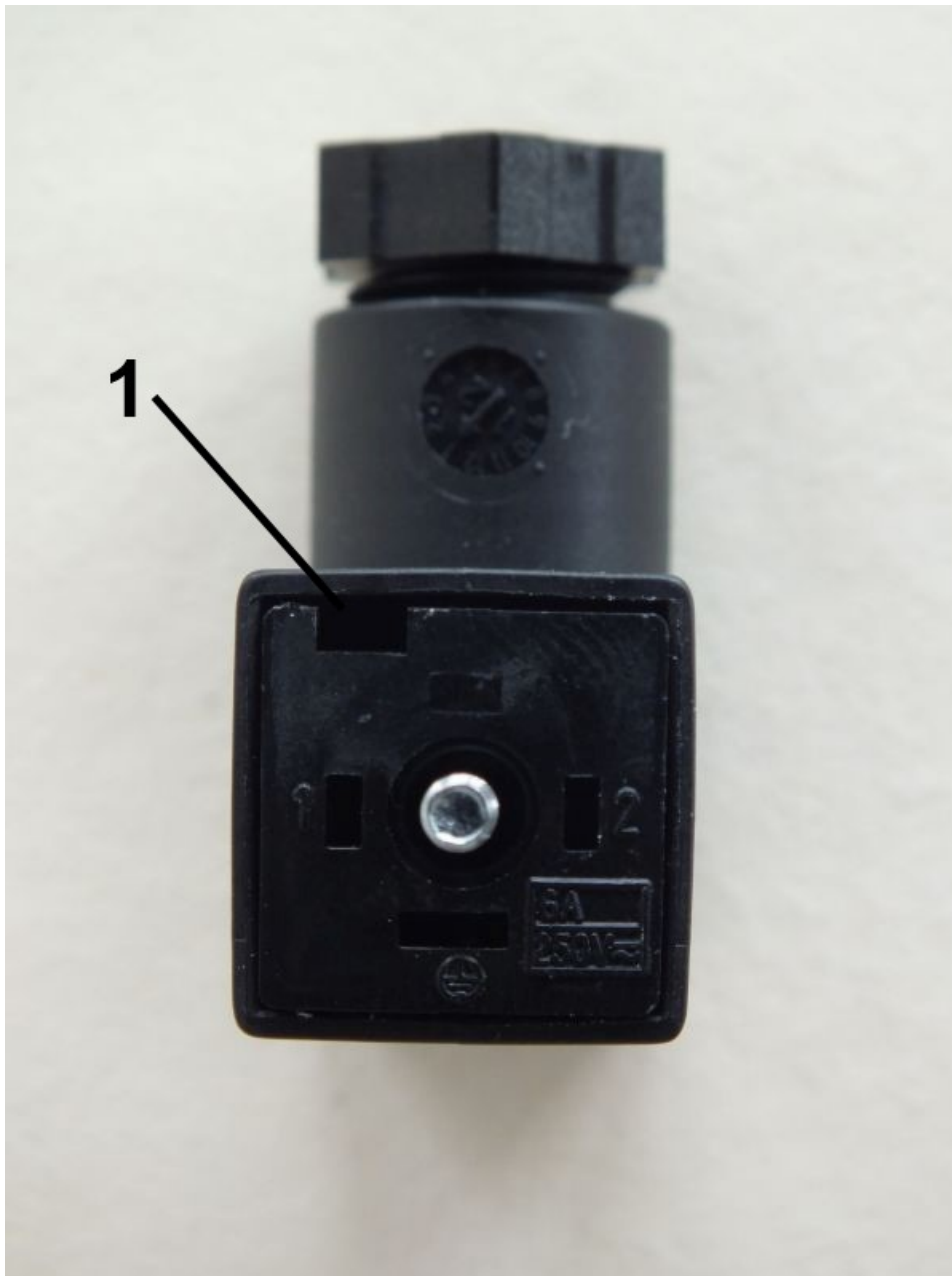

Fig. 22: Loosen inner section
- 3.** ➤ Remove the inner section from the socket by inserting a flat-bladed screwdriver into the slot (*Fig. 22/1*) and carefully pry out the inner section.
- 7.** ➤ Place the inner section (*Fig. 22*) back into the socket and push until it locks on